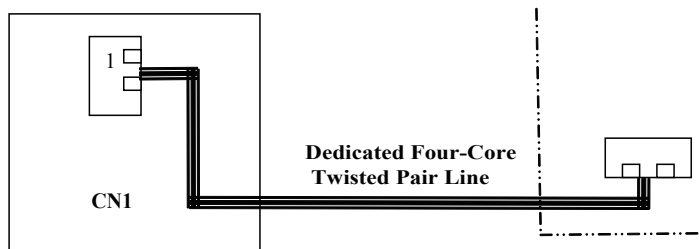

Fig.19 Connection of the Power and Communication Lines of the Wired Controller
When connect the main board and the display board, as shown in Fig.19, just insert the four-core twisted pair line derived from CN14 of the main board to the terminal CN1 on the display board. Prior to the connection, remember that the power supply has been cut off. And after the connection, please check if the connection is in good condition and ensure that there is no short circuit along the power cord. There are totally four lines for the controller: they are the grounding line (GND), communication line A (A), communication line B (B), and power line (+12V) respectively.